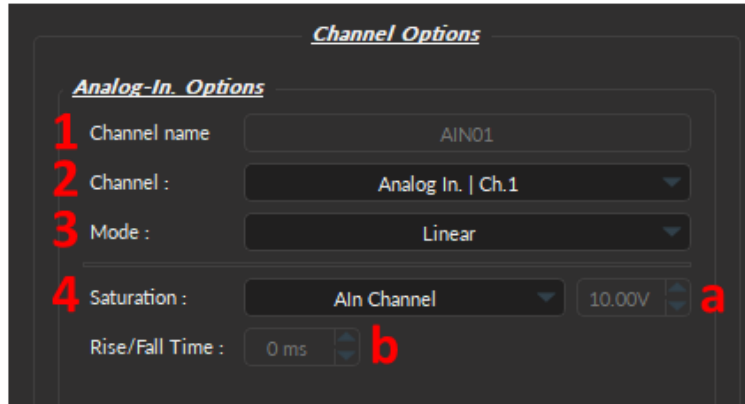
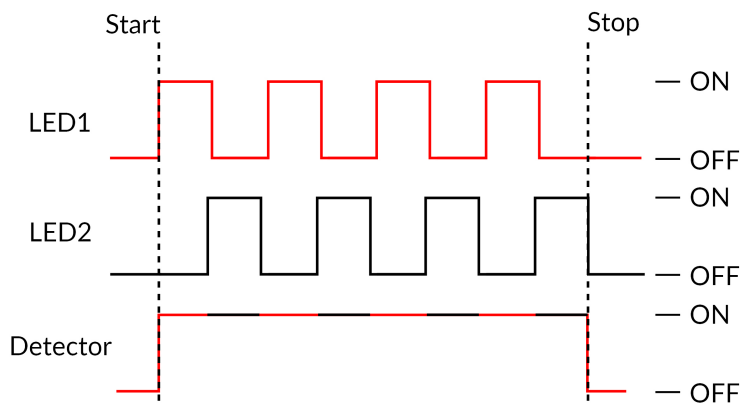
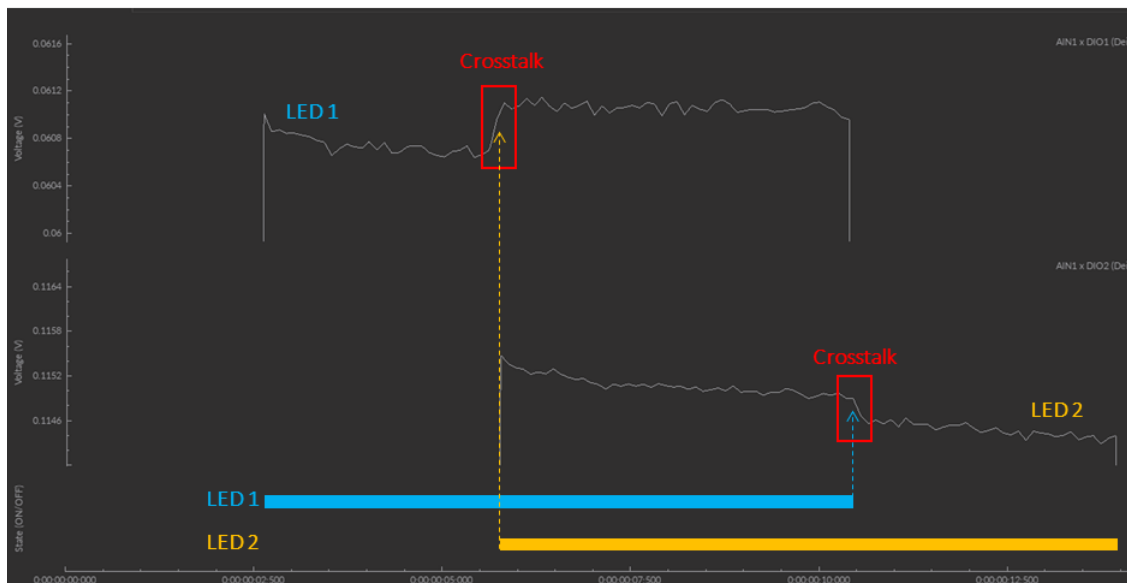
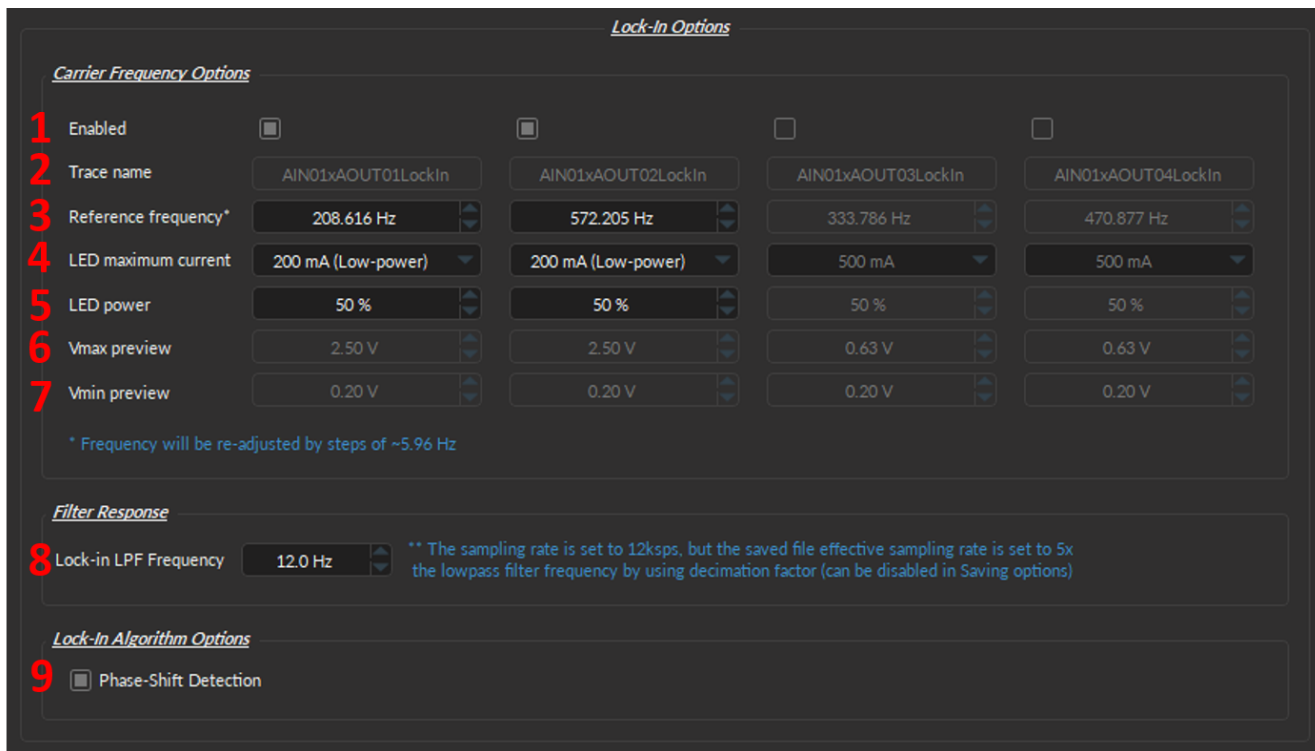

Figure 5.27: Channel(s) Configuration, Analog Input - Channel Options
Figure 5.29: Interleaved Acquisition Timing Diagram
Figure 5.30: Interleaved Cross-talk
Figure 5.34: Channel(s) Configuration, Analog Input Lock-In
The **Channel Options** (Fig. 5.27) defines the channel, source, and mode of the digital signal, as follows:
1. The **Channel Name** (Fig. 5.27, 1) allows the user to specify a label for each channel.
2. The **Channel** (Fig. 5.27, 2) identifies which of the channels available for each channel type is currently being modified. The channel can be changed by selecting a new one from the drop-down list. Each numbered channel on the physical console corresponds to the same number of digital channels within the software.
3. Three **Mode** (Fig. 5.27, 3) are available to record the input signal, each of which has its own defined parameters in the Options box below **Channel Options**:
4. The **Saturation** (Fig. 5.27, 4) automatically sets the following parameters and depends on the detector acquiring the data (Detectors: *Doric detector*, *Newport Detector*, *Hamamatsu C10709*, and *AIn Channel*):
- a) The **Maximum Voltage** (Fig. 5.27, 4a)
- b) The **Rise/Fall Time** (Fig. 5.27, 4b)
The **Interleaved** channel mode allows two channels to send an alternating pulsed signal of opposite phase for two separate light sources. Each source can excite a different fluorophore, which allows the detection of two separate fluorescence signals coming from the same sample using a single channel (Fig. 5.29).
The interleave preset is using 50% duty cycle for each LED, without delay between them (Fig. 5.29). Thus, depending on the Rise/Fall time of the detector in use (Fig. 5.27, 4b, Detector Rise/Fall Time), there will be more or less crosstalk between the interleaved channels (Fig. 5.30).
Specifically, when one of the digital channels is ON, it will pick up when the other is turned ON or OFF (Fig. 5.30). Figure 5.30 shows how the Digital Output channel of LED 1 has a small increase in voltage when LED 2 is turned ON. And, conversely, there is a small dip in voltage in the LED 2 channel when LED 1 is turned OFF (Fig. 5.30).
The **Lock-In Mode** parameters are as follows (Fig. 5.34):
1. The **Enable** (Fig. 5.34, 1) row lets users select which output channel to include in the Lock-In settings by clicking the respective check boxes. Each column corresponds to an Analog Out channel of the console (in order, such that left most column = AOUT1). Users should enable the output(s) channels that will be driving the input specified in Fig. 5.27, 2.
2. **Trace Name** (Fig. 5.34, 2) is the identity of the Input and Output Channel(s) enabled for this Lock-In configuration.
- The **AIN #** corresponds to the console Analog In port number that receives the raw (non-demodulated) signal from the detector. To change the **AIN #**, select a different **Channel** number from the **Analog In Options** box (Fig. 5.27).
- The **AOUT #** number corresponds to the Analog Out port on the console that sends electrical information (including the reference frequency) to the **LED Driver**. While you cannot change the **AOUT #** since it is native to each column of the **Carrier Options** (Fig. 5.34), changing which port is enabled using the checkbox (Fig. 5.34, 1) or physically moving the cable to a different port on the console allows user to specify the connection of the output.
3. **Reference Frequency** (Fig. 5.34, 3) is the oscillating trigger signal that drives the LED (or device(s) of choice). We recommend using the default values since they are optimized for fiber photometry. But, if modified, frequencies will be re-adjusted in steps of 5.96 Hz. In addition, the reference frequency should not be a multiple of known noise frequency (e.g. 50 and 60 Hz) or a multiple of another reference frequency.
4. **LED maximum current** (Fig. 5.34, 4) is the largest current that the LED can handle. This value should be set either in low power mode (recommend) or based on the intrinsic maximum current of the LED in use (500 mA or 1000 mA, depending on the type of LED).
5. **LED power** (Fig. 5.34, 5) is the percentage of maximum current (converted to voltage) that will be used as V_{max} and in **External Mode** during the recording, since the LED driver outputs a current proportional to the voltage with a conversion factor of 400 mA/V in standard operation mode, and 40 mA/V in low-power mode.
6. **V_{max} Preview** (Fig. 5.34, 6) - automatically displays the maximum voltage based on the **LED maximum current** and the **LED power** selected above. V_{max} can be changed if the **Custom** LED maximum current mode is selected. The V_{max} should never be below 0.3 V, nor above 4.7 V.
- **Note:** If you are using GCaMP and its isosbestic, we recommend that the isosbestic demodulated trace be about half the power of the GCaMP demodulated trace to reduce the risk of photobleaching (as in Fig. 5.34, 5).
7. **V_{min} Preview** (Fig. 5.34, 7) - the default value is set to 0.2 V but can be changed if the **Custom** LED maximum current mode is selected. The V_{min} should never be below 0.1 V.
8. **Lock-in LPF Frequency** (Fig. 5.34, 8) defines the **Cutoff Frequency** of the low-pass filter that extracts the signal and is set to 12 kSps by default. This value was selected because, in photometry experiments, the greatest source of noise to the filter is around the carrier frequency above 200 Hz. Thus, with the current filtering algorithm, a cutoff frequency of 12 Hz (corresponding to a decimation factor of 200x) gives the best filtering results.
9. **Phase-Shift Detection** (Fig. 5.34, 9) The phase-shift detection is an algorithm that replaces data points in the demodulated signal if data loss occurs during recording. This helps to smooth the demodulated signal by preventing shifts in the lock-in calculation.